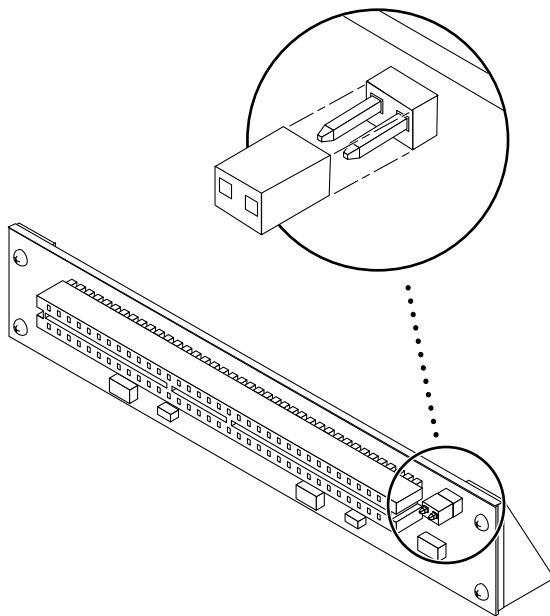

FIGURE 4-25 JTAG Test Jumper
2. Verify that the JTAG test jumper is removed/disabled (FIGURE 4-25).